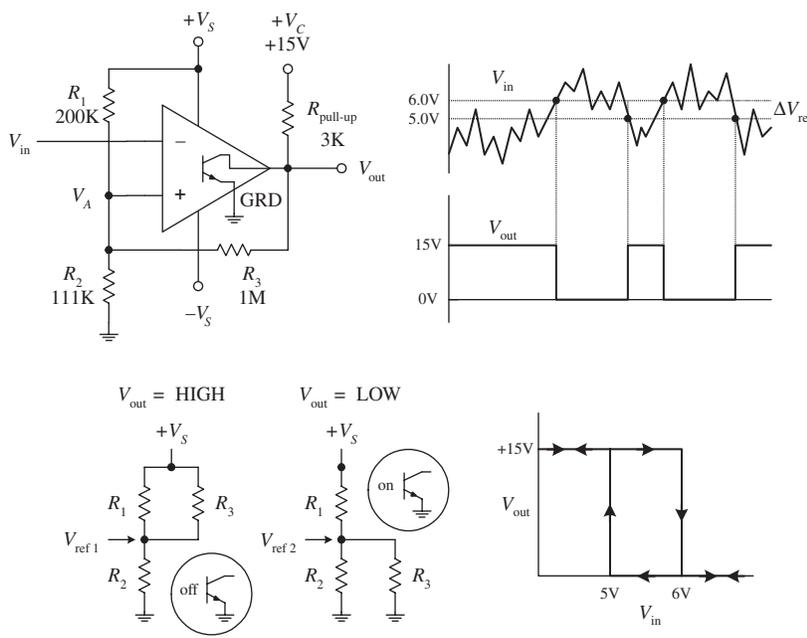

FIGURE 8.30
In the inverting comparator circuit shown in Fig. 8.30, positive feedback through R_3 provides the comparator with two threshold voltages or triggering points. The two threshold voltages result from the fact that the reference voltage applied to the noninverting terminal is different when V_{out} is high (+15 V) and when V_{out} is low (0 V)—a result of feedback current. Let's call the reference voltage when the output is high V_{ref1} , and call the reference voltage when V_{out} is low V_{ref2} . Now let's assume that the output is high (transistor is off) and $V_{in} > V_{ref1}$. In order for the output to switch high, V_{in} must be greater than V_{ref1} . However, what is V_{ref1} ? It is simply the reference voltage that pops up at the noninverting terminal when the output transistor is off and the output is high (+15 V).